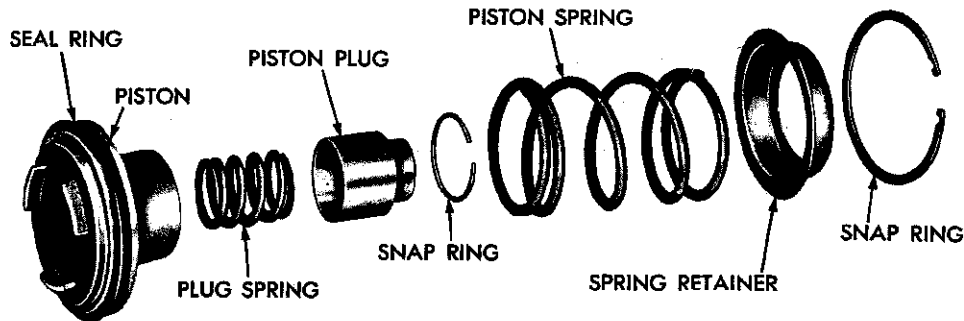

Fig. 82—Low and Reverse Servo (Disassembled)
(1) Remove the snap ring from the piston and remove the piston plug and spring (Fig. 82).
(1) Carefully work the servo piston assembly into the case with a twisting motion. Place the spring, retainer and snap ring over the piston (Fig. 82).
(2) Compress the low and reverse servo piston spring by using the engine valve spring compressor